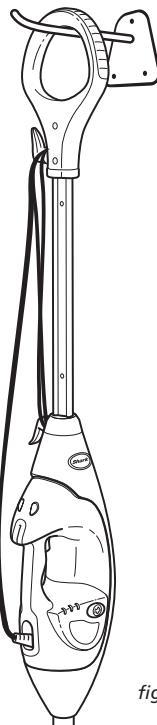

fig. 29
- 6 To store the **Shark® Lift-Away™ Pro Steam Pocket®** Mop hanging up, first remove the head (after it has cooled and the steam has been released) then hang on a large hook. (fig. 29)